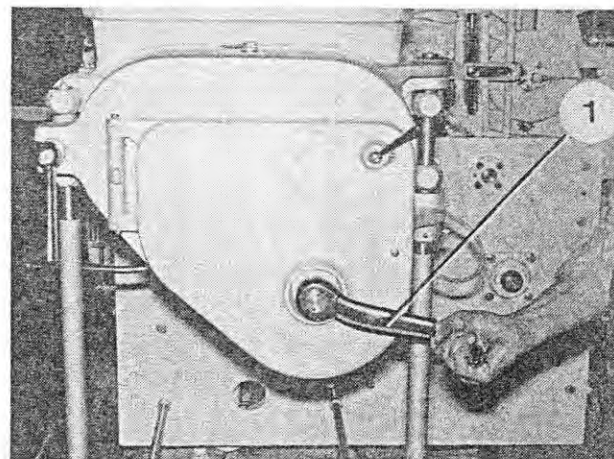
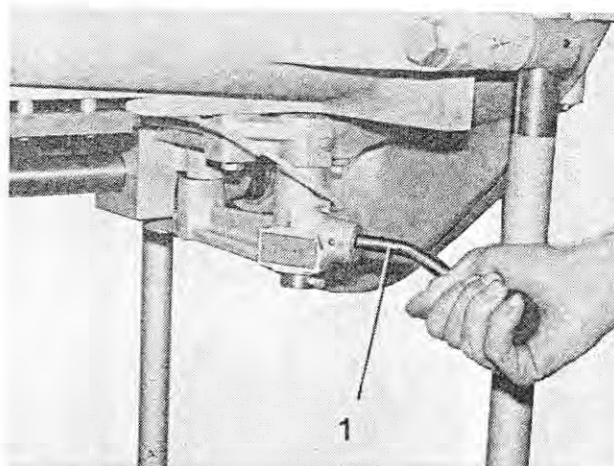

Fig. 195
Fig. 196
2. Engage the handle (Figure 195/1) by pulling back and turn it in the direction of the arrow until the clutch of the worm trough can be disengaged on the lever (Figure 196/1).